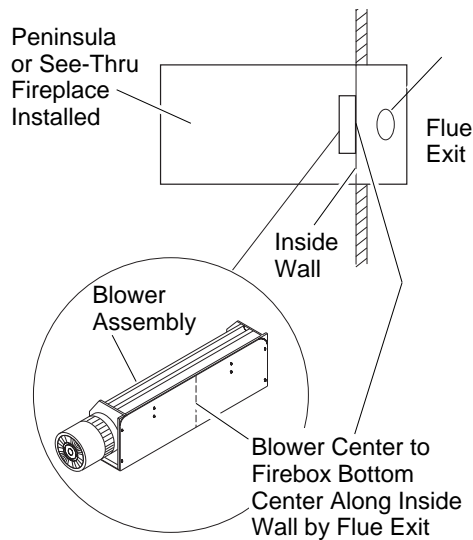

Figure 32 - Blower Assembly Placement
- Place blower assembly so it rests flush against the inside wall on the flue exit side of the firebox (see Figure 32). There are four magnets on the bottom of the blower assembly that will keep the blower in place on firebox bottom. **Note:** If the blower kit is not installed flush against the inside side wall of the fireplace, the circulating air from the blower system will not flow properly.